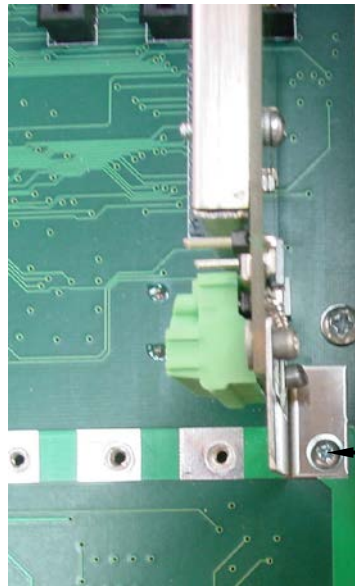

Figure No. 23
1. Reinstall the 825-SIB into the rear enclosure and secure it to the main PC board with the screw removed earlier. See Figure No. 23.